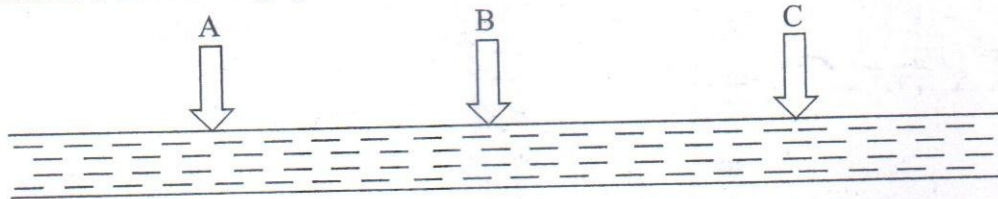

Figure 1: A river is receiving waste water from different discharge points
- (c) A river stream receives waste water from different discharge points (A, B and C) as shown in **Figure 1**. Draw qualitative diagrams showing the changes in the concentration of persistent pollutants, biodegradable organic pollutants and microbial pollutants at different waste discharge points in the downstream. [7]